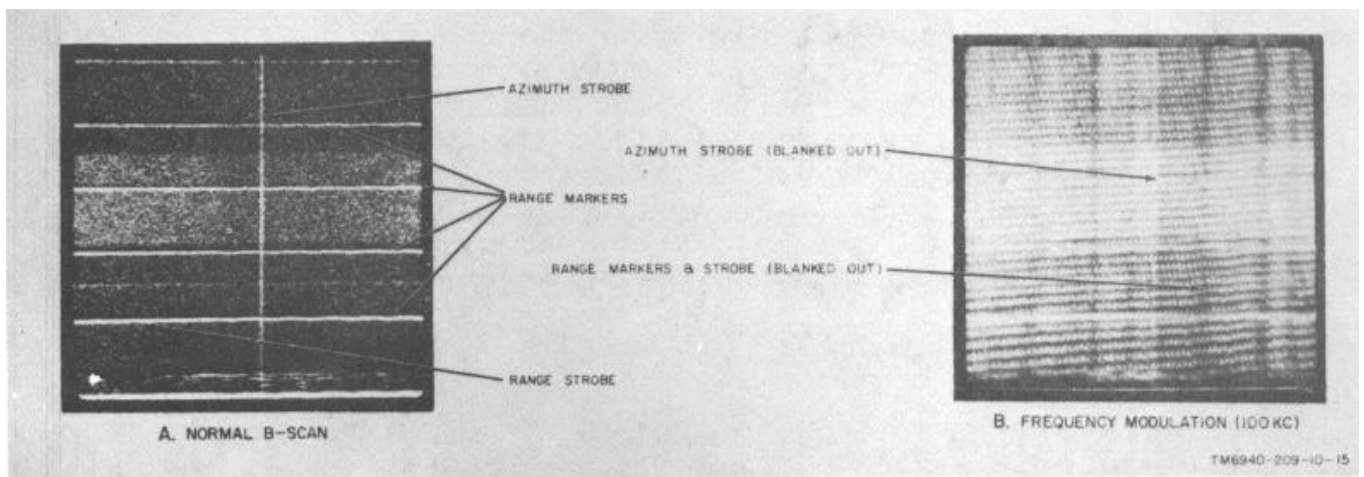

Figure 7. Normal B-scan and jamming by frequency modulation.
### **15. Frequency-Modulated Jamming** (fig. 7)
c. For the radar trainer, deviation from the carrier frequency of the fm sine-wave jamming signals is 20 mc. The rate of frequency modulation is continuously variable from 15 cps through 15 kc. Fixed frequency settings are available at 50 and 100 kc. The presentation of B, figure 7, shows the effects of sine-wave, frequency modulated jamming. The rangemarkers, range strobes, and azimuth strobes are blanked out.